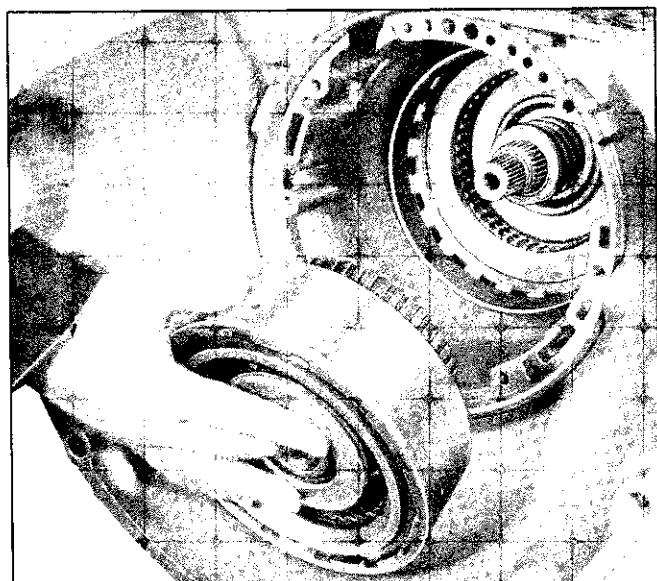

Fig. 7E-33 Removing Direct Clutch Assembly
b. Remove manual shaft retaining pin from case (Fig. 7E-34).